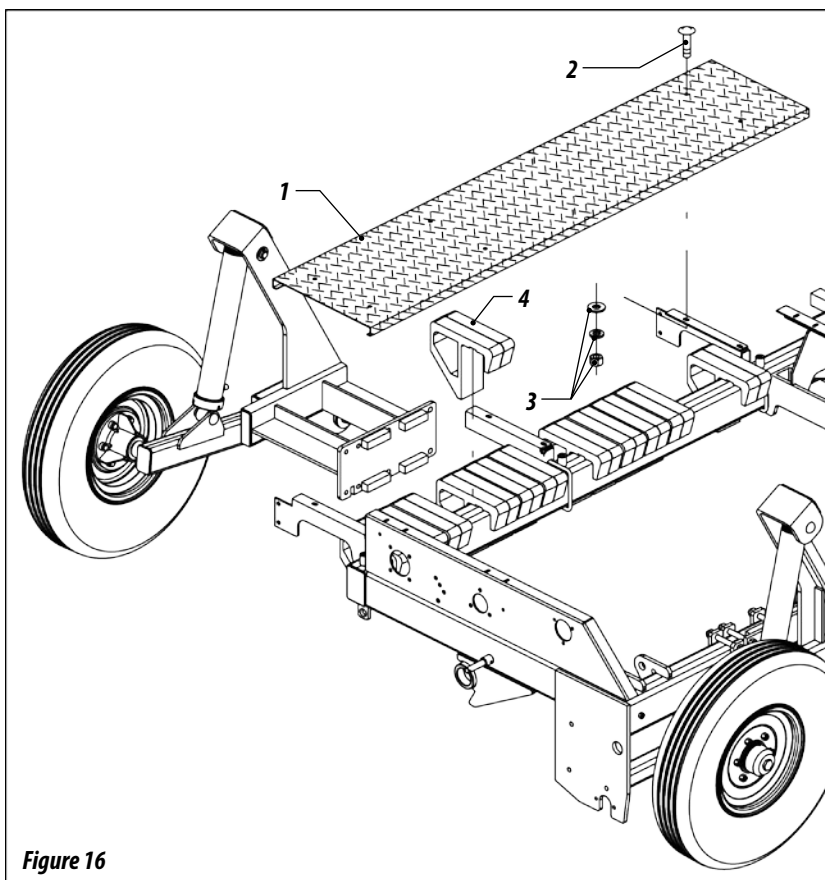

Figure 16
31 - Remove the platform (1) through the screws (2), washers and nuts (3) and the counterweights (4), according to the number necessary to attach the bracket of the wheelset, figure 16.